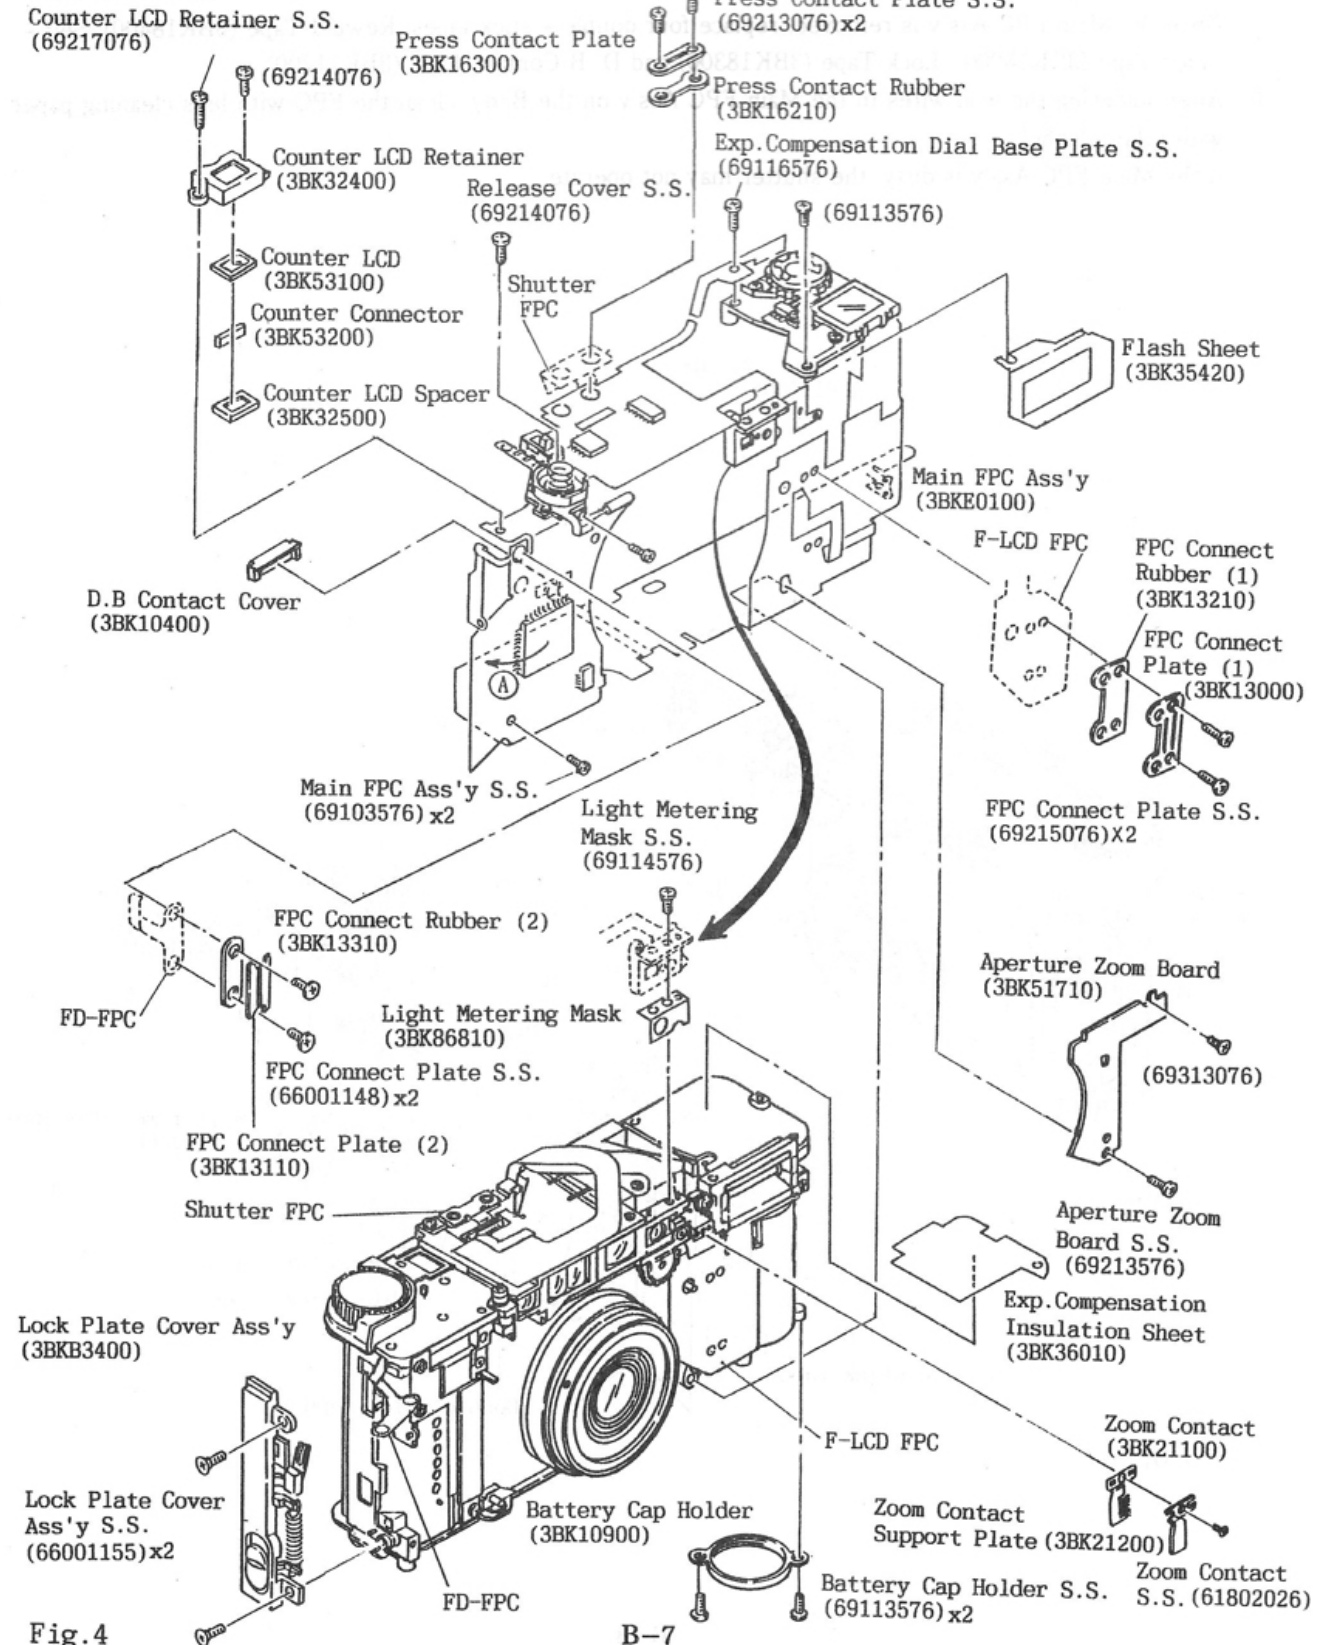

Fig.4
- 10) Remove the FPC Connect Plate Setscrews (69215076)  $\times$  2 and take off the FPC Connect Plate (1) (3BK13000) and FPC Connect Rubber (1) (3BK13210).
- 11) Remove the FPC Connect Plate Setscrews (66001148)  $\times$  2 and take off the FPC Connect Plate (2) (3BK13110) and FPC Connect Rubber (2) (3BK13310).
- 13) Peel off the Main FPC in the direction of the arrow  $\textcircled{A}$ , remove the Main FPC Ass'y Setscrews (69103576)  $\times$  2 and take off the Main FPC Ass'y (3BKE0100). (See Fig. 4)